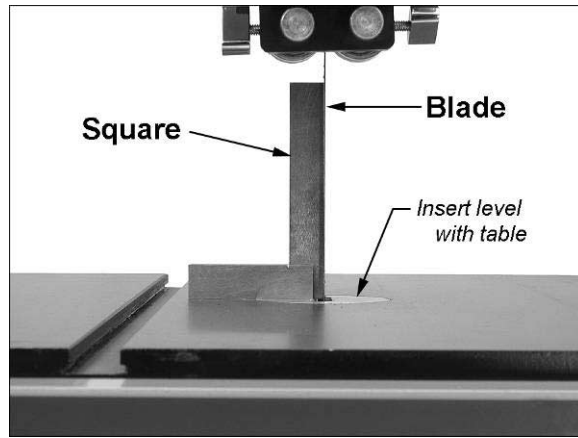

Figure 22
- Make sure the table insert is level with surface of table by rotating one or more of its set screws with a 5/164" (2mm) hex wrench. Then place a square on the table and against the blade to check that the table is 90° to the blade. See Figure 22. *NOTE: Do not push square into blade.*
- If table and blade are not square, use a 9/16" (14mm) wrench to loosen the lock nut (E) then rotate the stop bolt. Turn the stop bolt as needed until there is no longer light showing between the square and the blade.
- Tighten lock nut (E) to secure the table stop in position.
- Tighten the lever (B).